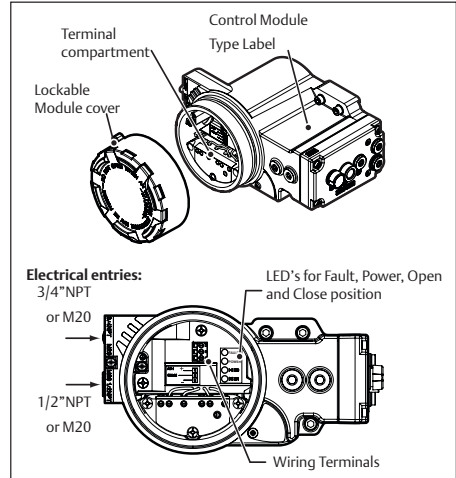

Fig. 4.2 Terminal connections behind cover.
- 1 Remove Control Module cover (see Figure 4.2).
- 4 Mount the function module cover to the housing (see Figure 4.2) or continue with chapter 5. Take care that the cover seal is in place to comply to dust and water tightness according to IP66 / NEMA 4X.